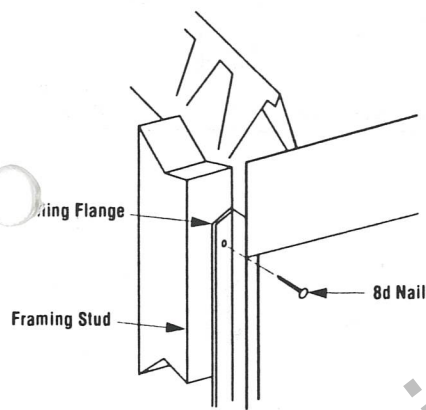

Figure 19
Step 5. Firebox should be secured to side framing members using nailing flanges. Use 8d nails (*Figure 19*).